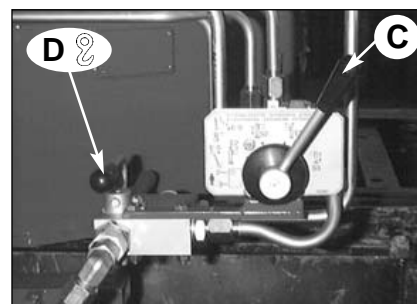

fig. 26
- Move the lever **D** controlling the crane/outriggers oil-diverter (☺ - **E/S**) to activate the crane controls. (Fig. 26).